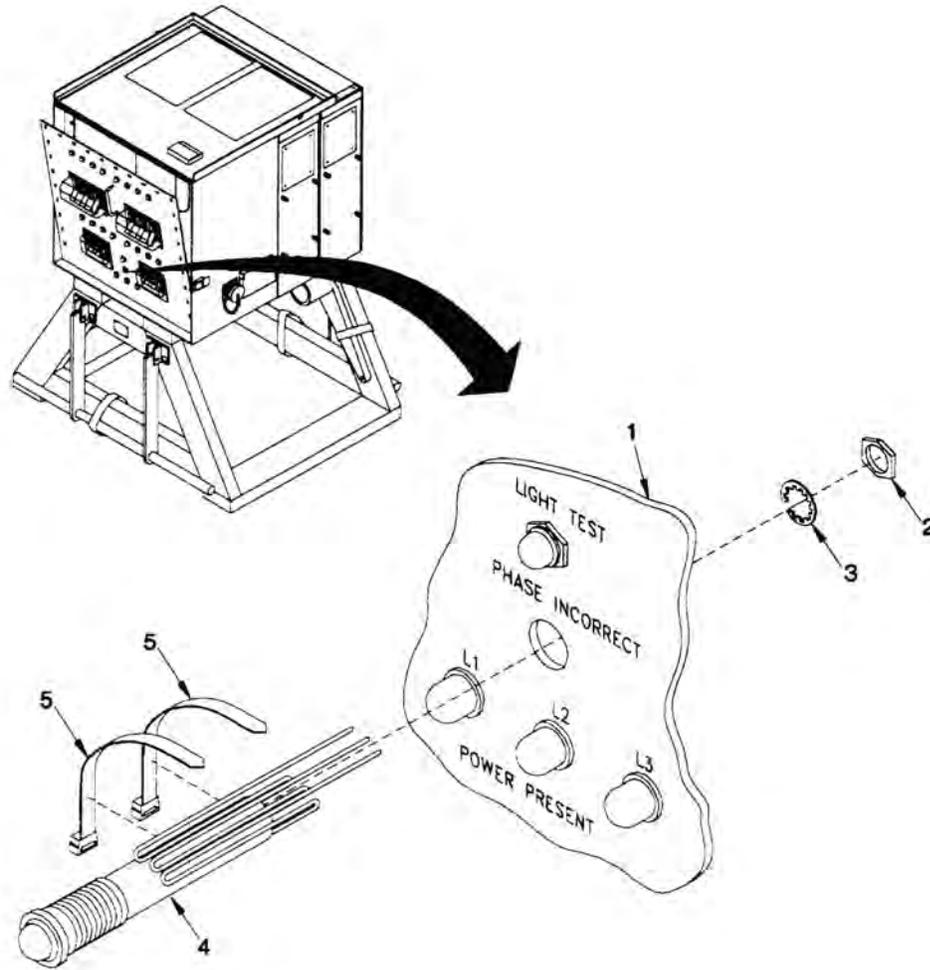

Figure 1. Lamp-holder, Phase Incorrect Indicator (Circuits 1-4).
4. Perform steps contained in WP 0027 to access rear of circuit breaker panel (Figure 1, Item 1).
5. Position and secure lampholder (Figure 1, Item 4) on circuit breaker panel (Figure 1, Item 1) by installing one lock washer (Figure 1, Item 3) and one mounting nut (Figure 1, Item 2) on rear of lampholder (Figure 1, Item 4). Position wires along body of lampholder and secure with two wire ties (Figure 1, Item 5).
6. Solder three wires to posts on rear of lampholder (Figure 1, Item 4). Remove tags from wires.
7. Secure circuit breaker panel (Figure 1, Item 1) by performing procedures in WP 0027.